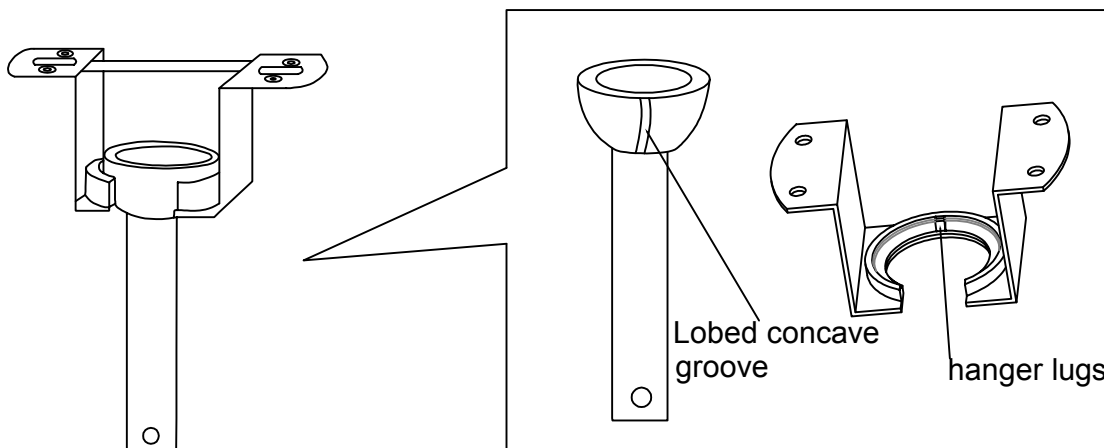

Figure 3.3
- Place the lobes in the hanger and turn the pipe so that the groove on the lobes engages the lugs on the dome(inside the hanger) ,The lug groove must engage the hanger lug.(Figure 3.3)